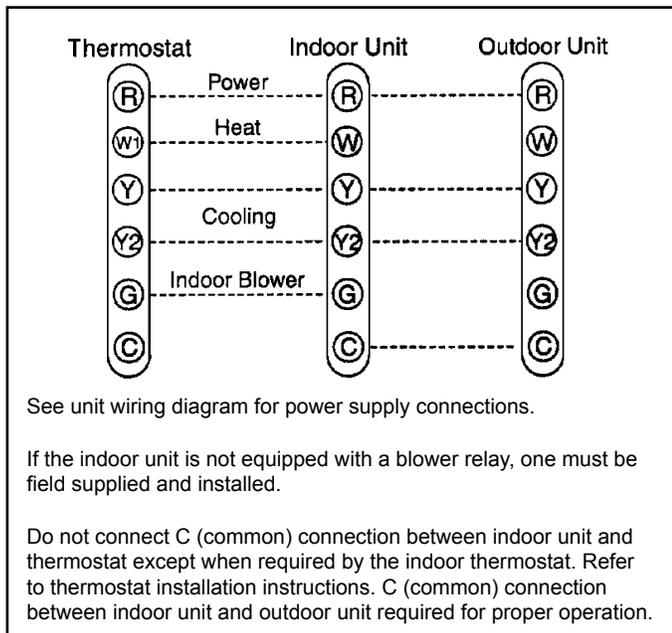

Figure 3. Thermostat Designations
4. Install low voltage wiring from outdoor to indoor unit and from thermostat to indoor unit (Figure 3).